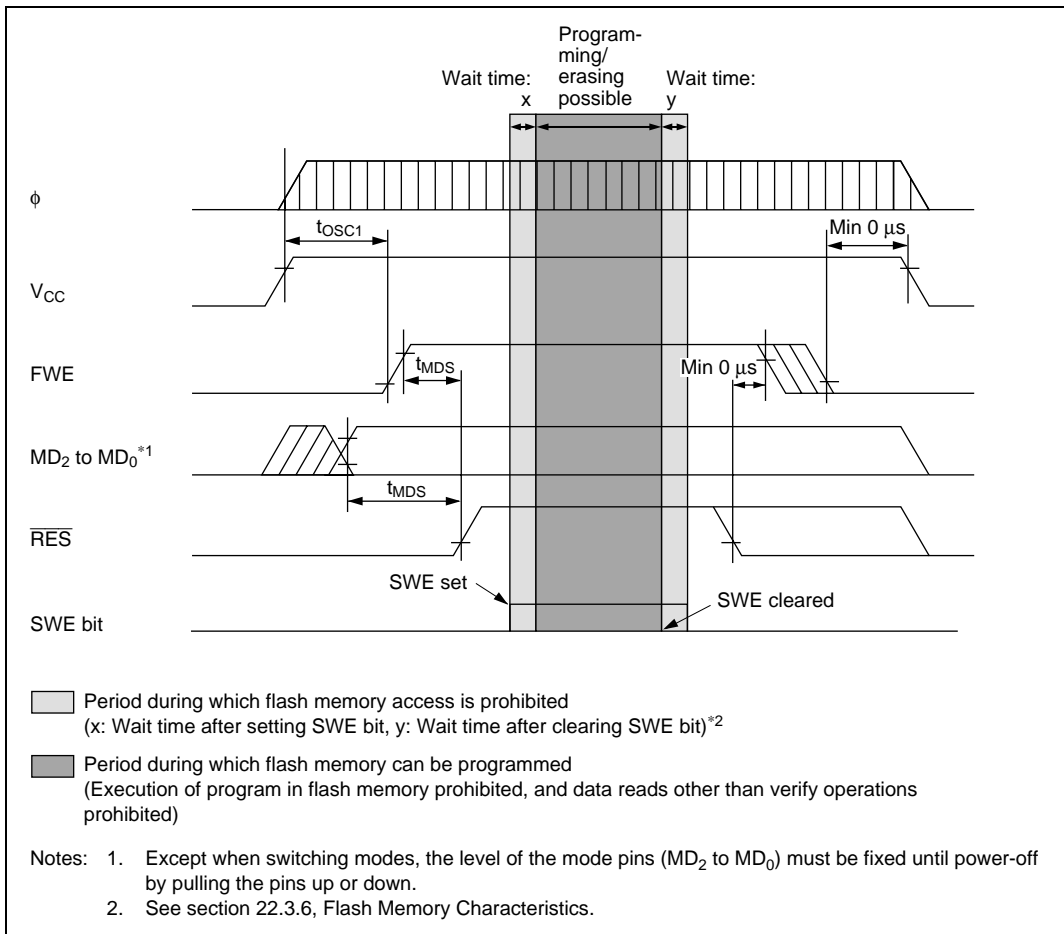

Figure 18.16 Power-On/Off Timing (Boot Mode)
2. Powering on and off (See figures 18.16 to 18.18)